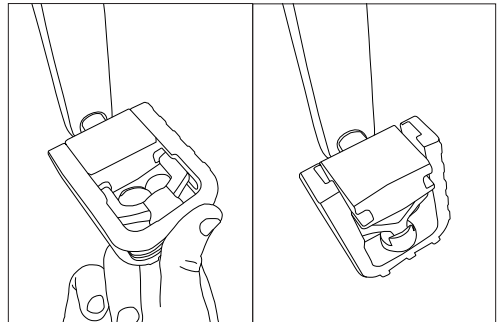

Fig. 38: Folding the pedals
1. Grasp the outside edge of the pedal, insert your fingers into the center of the pedal body, and squeeze (Fig. 38).
3. Fold the pedal 90 degrees so it lays parallel with the crank arm (Fig. 38).